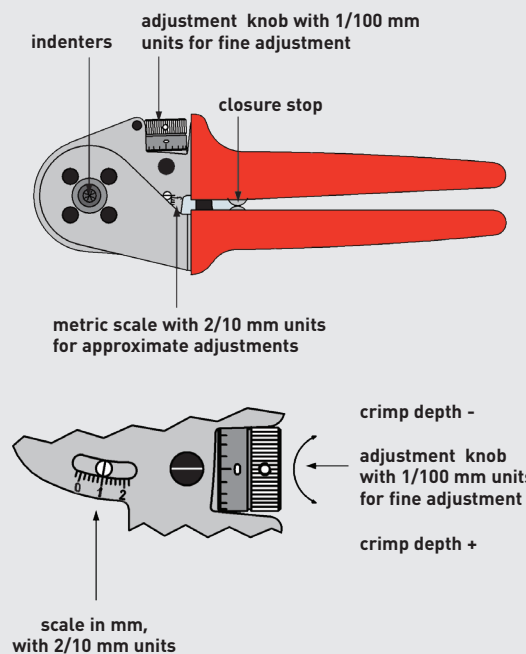

Fig. 5 - Manual crimping tool
- Insert the contact together with the fibre optic cable as far as possible into the crimping opening of the crimping tool (**CLPZ R**, refer to Fig. 5) while applying gentle pressure to the fibre optic connector, close the tool until you hear it disengages.